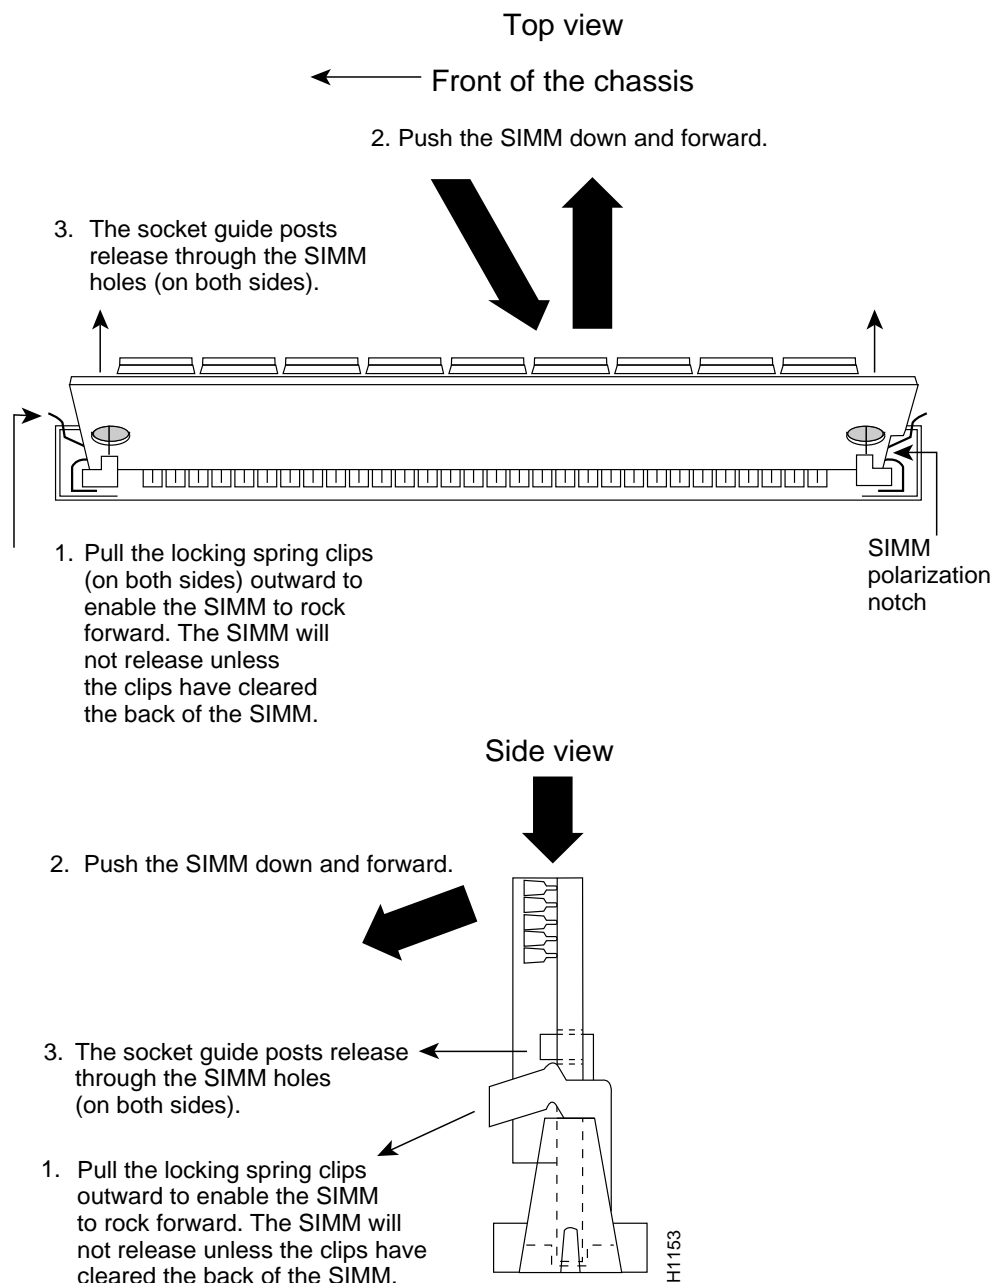

Figure 12 Removing Main Memory SIMMs
- Step 3** To lift the SIMM out of its socket, pull the locking spring clips on both sides outward and tilt the SIMM free of the clips. (See Figure 12.)